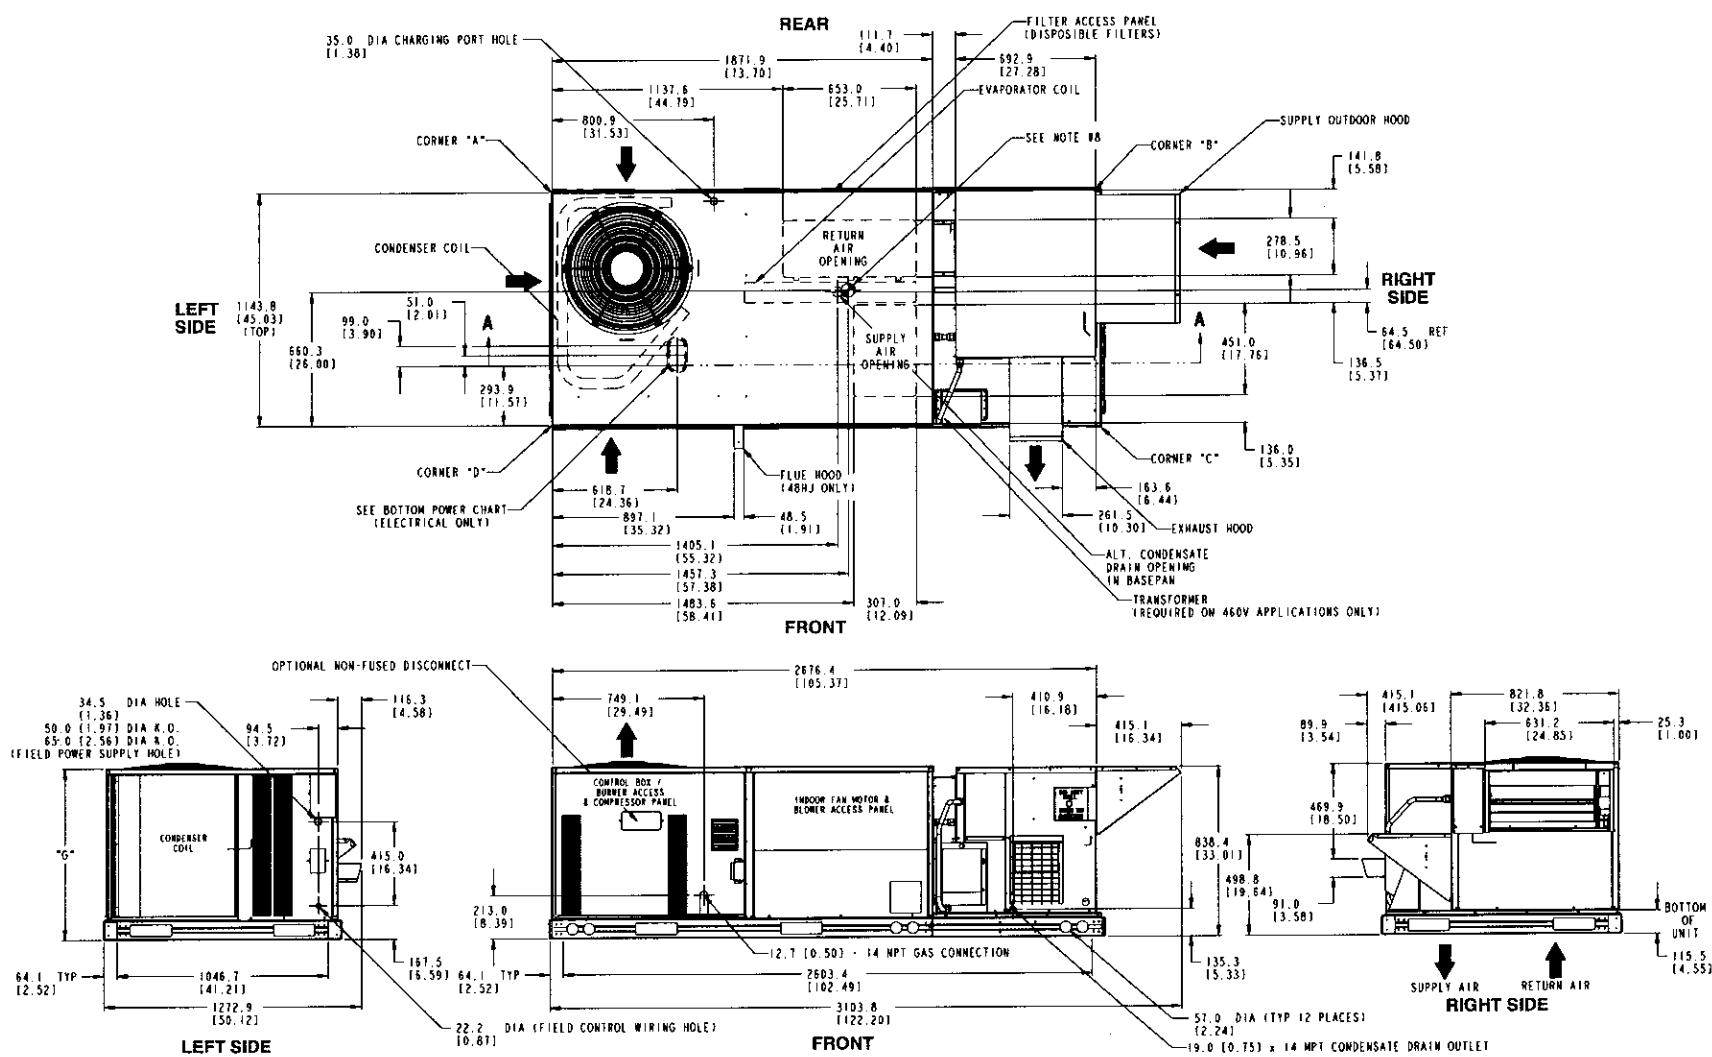

Fig. 5A — Base Unit Dimensions — COBRA™ Energy Recovery Unit — 48/50HJ004-007 with 62AQ060,100
**Step 3 — Field Fabricate Ductwork** — Secure all ducts to roof curb and building structure. *Do not connect ductwork to unit.* Insulate and weatherproof all external ductwork, joints, and roof openings with counter flashing and mastic in accordance with applicable codes. See Fig. 5A and 5B for duct dimensions.
this reason, the bottom drain on the rooftop unit CANNOT be used for a condensate drain. The 3/4-in. drain connection on the energy recovery section is located near the bottom left of the exhaust air section. See Fig. 5A and 5B. The Energy\$Recycler section must have a field-fabricated, external, P-trap installed for condensate drainage. Trap must be at least 4 in. deep to protect against freeze-up. If the drain line is installed downstream from the external trap, pitch the line away from the unit at 1 in. per 10-ft of run. Do not use a pipe smaller than the connection (3/4-in.).